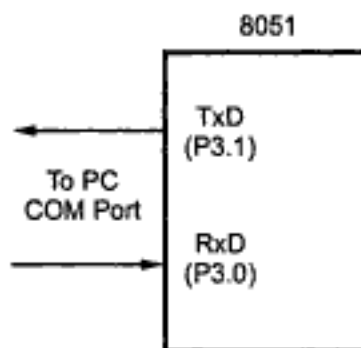

Fig. 10.5
**Solution :** The Fig. 10.5 shows the connections between 8051 and PC.